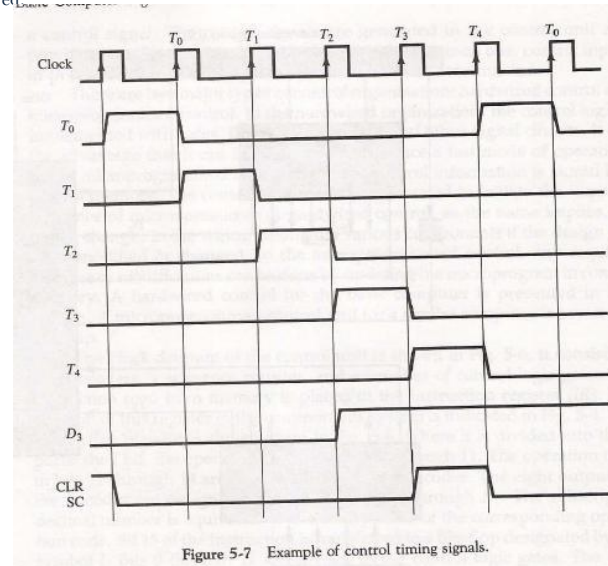

Figure 5-7 Example of control timing signals.
- The timing diagram of Fig. 5-7 shows the time relationship of the control signals.
- The last three waveforms in Fig. 5-7 show how SC is cleared when $D_3T_4 = 1$.